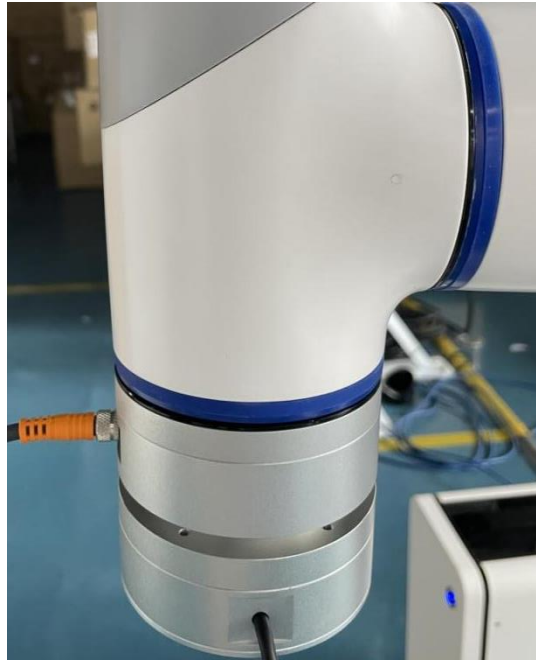

Figure 4.5 Sensor parallel to the ground
Step 5 Make the tool side of the sensor parallel to the ground ($J4=0^\circ$), as shown in Figure 4.5.